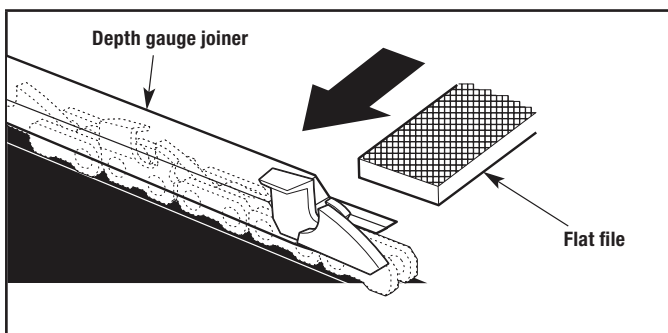

Figure 35
3. Use a depth gauge tool (not included) to measure the depth gauge clearance (Fig. 35) of each cutter. The depth gauge clearance must be maintained at 0.025 inch (0.635 mm). The depth gauge clearance determines the depth at which the cutter enters the wood during operation and the size of the wood chips produced. Too much clearance increases the chance of kickback. Too little clearance decreases the size of the wood chips, thus decreasing the ability to cut.
- 3a. Use a 0.025 inch (0.635 mm) depth gauge jointer and a flat file (tools not included) to lower the depth gauge to the correct clearance (Fig. 35).